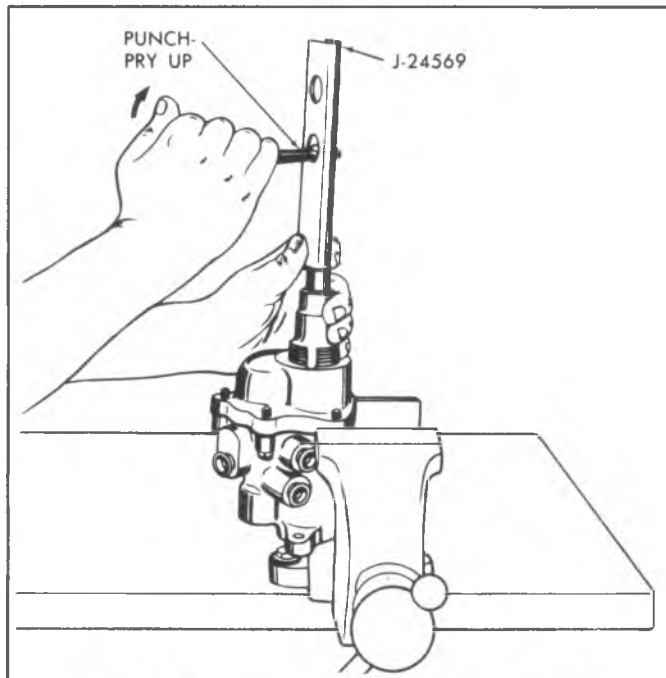

Fig. 5-2E--Removing Booster Pedal Rod (Typical)
- Place Tool J-24569 around the pedal rod and resting on the input rod end as shown in Figure 5-2E.